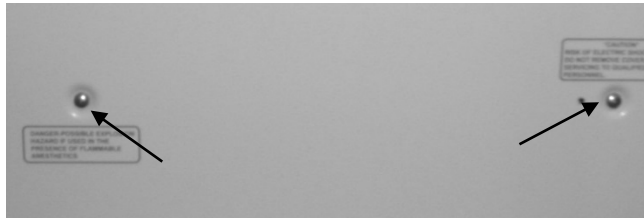

Figure 3 – Middle Rear Panel Screw Locations
10. Remove the middle rear panel covers. See Figure 3 for screw locations. Unplug the cover's ground wire.